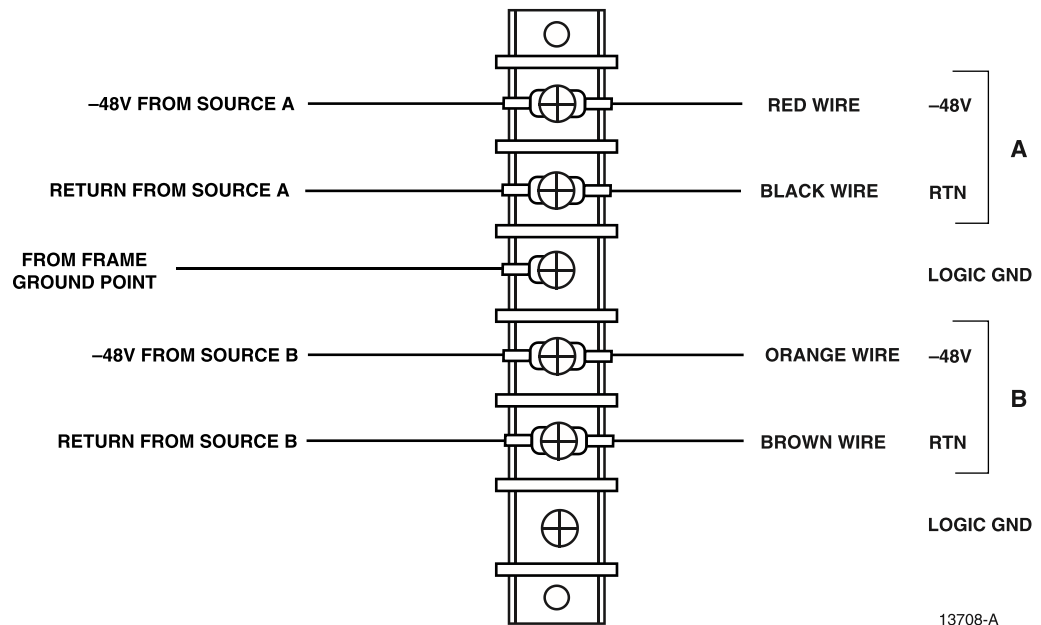

Figure 4-17. Power Terminal Strip
5. Connect one pair of **red and black** power wires to the **-48V A** and **RTN A** terminals on the HDT power terminal strip as shown in Figure 4-17 and as specified in Table 4-3.
9. Connect remaining pair of **red and black** power wires to the **-48V B** and **RTN B** terminals on the HDT power terminal strip (see Figure 4-17 and Table 4-3).